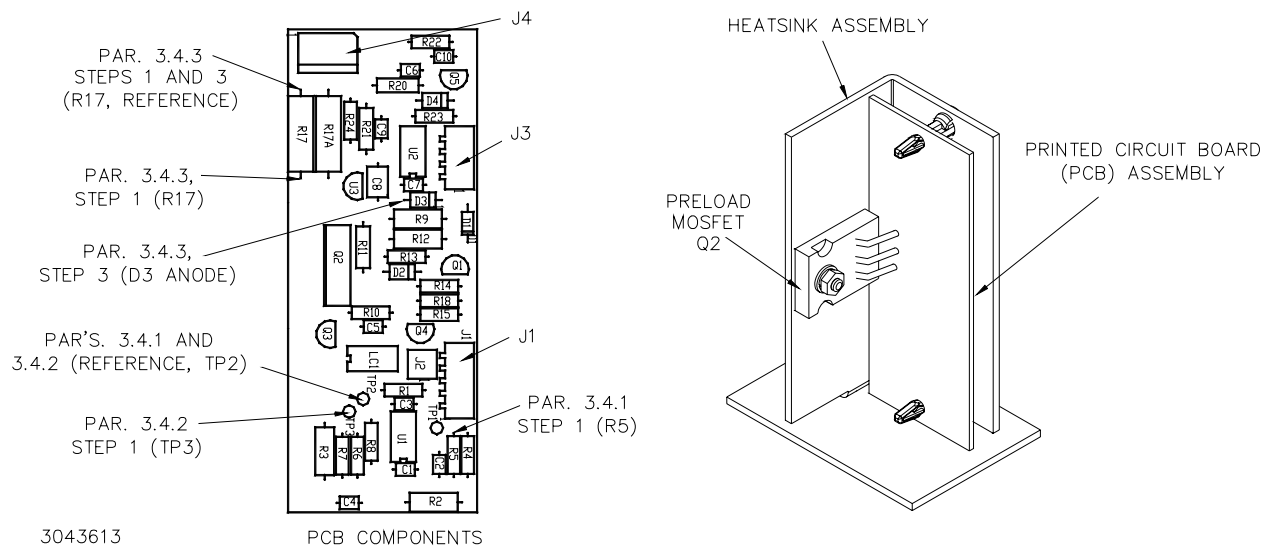
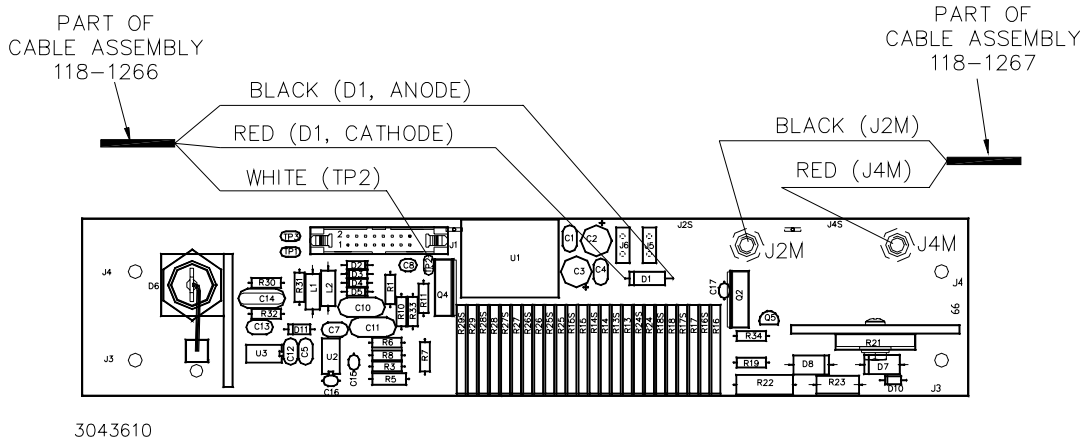
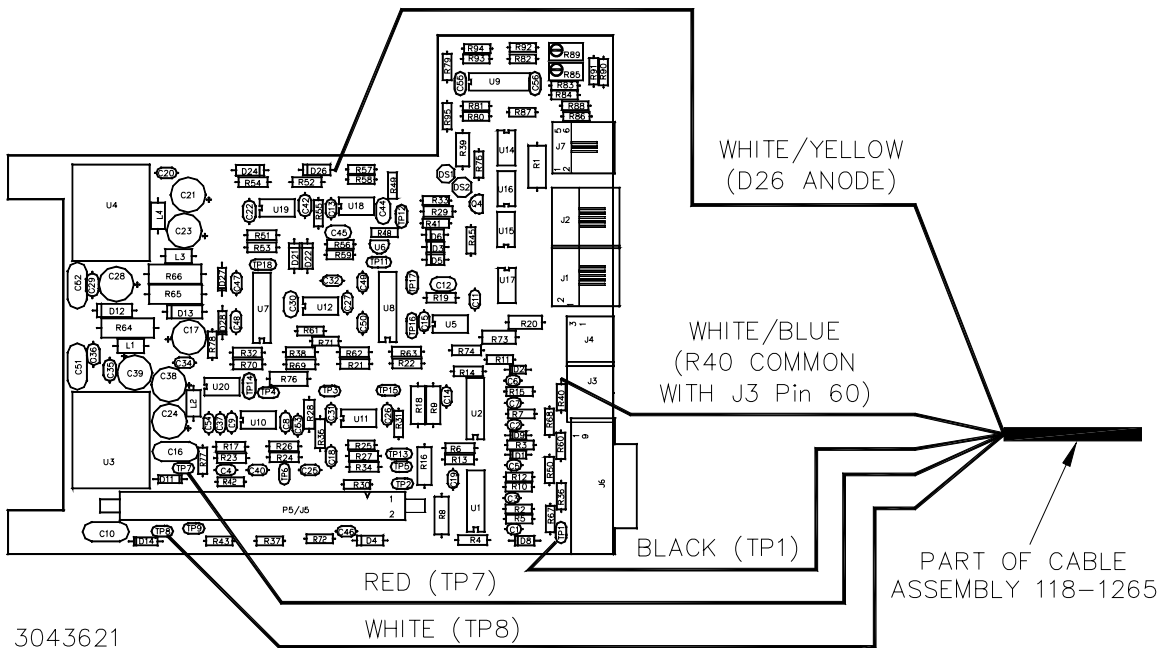

FIGURE 1. TRANSITION CIRCUIT ASSEMBLY, COMPONENT LOCATIONS
FIGURE 3. A4A8 COMPONENT LOCATION/WIRING
FIGURE 4. A2A5 COMPONENT LOCATION
The Transition Circuit assembly Printed Circuit Board (PCB) is shipped assembled to the Heatsink with the pre-load-MOSFET mounted directly on the heatsink (Figure 1).
2. Cable assembly P/N 118-1267 (provided in the Kit) has a 3-pin connector with two wires, each having non-isolated ring lugs. Remove the screws and lockwashers from J4M and J2M on A4A8, then add the wires from the cable assembly to the wires already connected to J4M and J2M as follows (see Figure 2 for the location of A4A8 in the chassis, Figure 3 for location of J4M and J2M and Figure 6 for cable routing):
3. Install the 4-pin cable assembly (P/N 118-1266) on Transition Circuit A7A3J3 of the PCB (see Figure 1). Route the cables as shown by Figure 6. This cable has three (3) unterminated wires. Determine the needed length, cut the wire and remove the insulated sleeving (approximately 0.15"), then solder each wire to the indicated point (see Figure 3 for A4A8 component locations and Figure 6 for cable routing):
4. Install the 5-pin cable assembly (P/N 118-1265) on Transition Circuit A7A3J1 (see Figure 1) of the PCB. Route the cables as shown by Figure 6. This cable assembly has a 5-pin connector with five (5) unterminated wires. Determine the needed length, cut the wire and remove the insulated sleeving (approximately 0.15"), then solder each wire to the indicated point of assembly A2A5 (see Figure 4 for location of wire attachment points and Figure 6 for cable routing):
1. With the unit turned off, connect a DVM (set for DC voltage measurements) to Transition Circuit A7A3R5 (end closest to A7A3J1; see Figure 1), referenced to TP2.